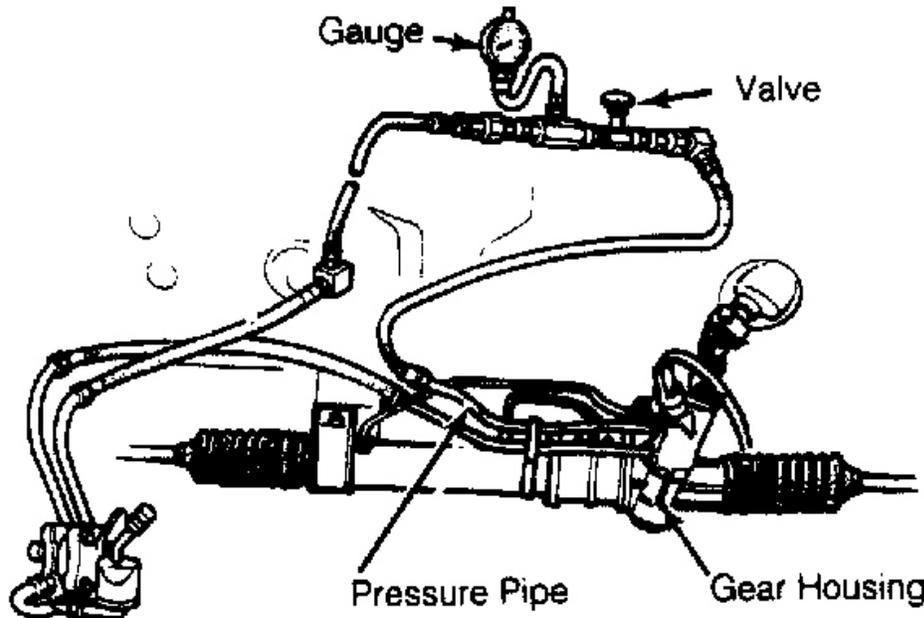

Fig. 1: Connecting Pressure Gauge (Except 4-Wheel Steering)
1. Disconnect pressure hose and connect pressure gauge/valve between steering pump and steering gear. See **Fig. 1** . Bleed air from system.